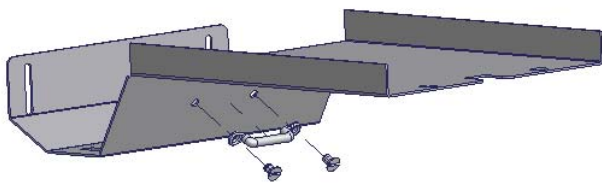

FIGURE 1
4. Using (2)10-32x1/2" Flat Phillips machine screws and (2)10-32 Locknuts bolt the footman loop to the Lower Adjustment Piece as shown in Figure 1.
6. Using (2)10-32x1/2" Flat Phillips machine screws and (2)10-32 Locknuts bolt the footman loop to the Lower Adjustment Piece as shown in Figure 1.